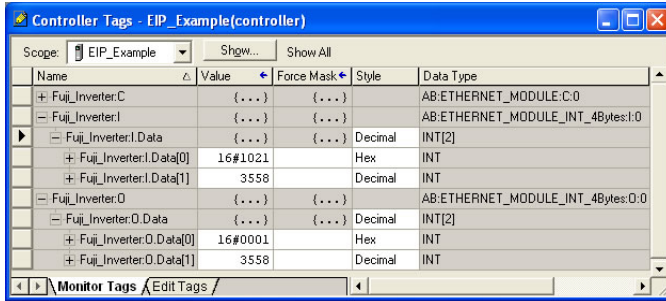

Figure 83: Controller Tags for I/O Access
- 8) By double-clicking "Controller Tags" in the project tree, it is possible to view the newly-added tags. Refer to Figure 83. The Fuji_Inverter:C configuration tag is unused, the Fuji_Inverter:I tag allows viewing of the input data, and the Fuji_Inverter:O tag allows modification of the output data. These tags will be synchronized with the inverter at whatever rate was established for the module's RPI.
control and monitor the inverter. In Figure 83, for example, we can see that the first 16-bit word of output data (Fuji_Inverter.O.Data[0]) has been set to a hexadecimal value of 0x0001. Referring back to Figure 43, we can see that the first element of the consumed data configuration references function code S06, which is the inverter's operation command register. A value of 0x0001, therefore, means that the FWD (run forward) bit has been turned ON.